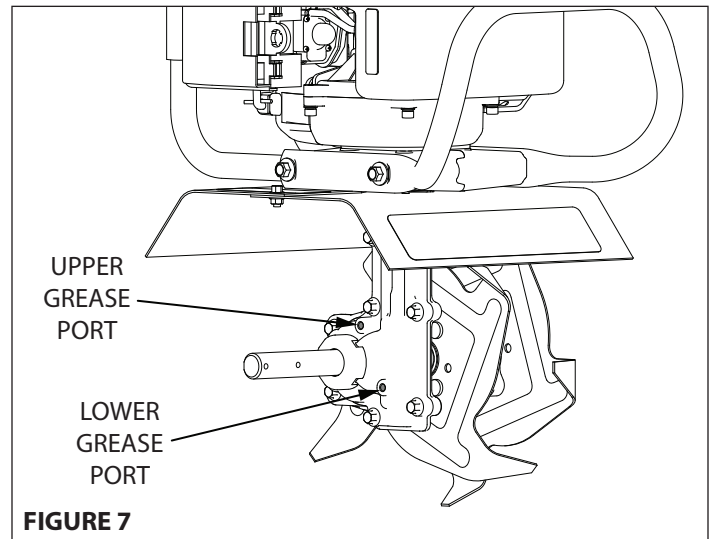

FIGURE 7
1. The transmission case has grease installed at the factory. It is recommended to check grease level once a year. Add a molythium type grease into the lower grease port only if the grease is below the level of the upper grease port. **DO NOT OVERFILL. SEE FIGURE 7**